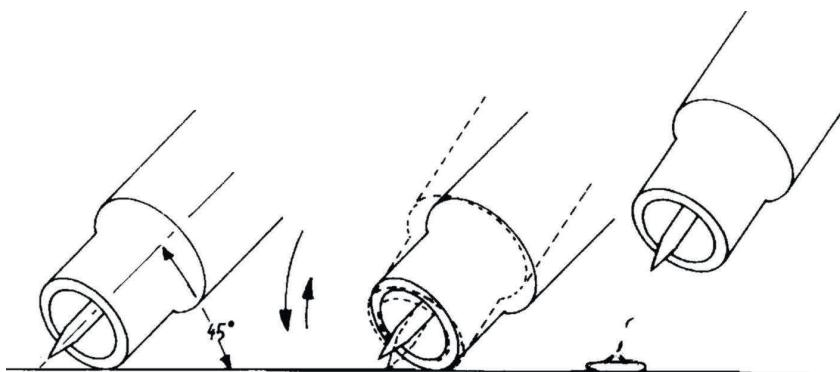

Figure 3
- Open the gas valve on the torch handle, allowing gas to flow from the torch nozzle. Cover your face with the head shield, bring the torch to within 3-4mm of the work, and at an angle of 45°, so that the ceramic nozzle gently touches the work surface. (Fig.3). Scratch the tip of the electrode until an arc develops, quickly withdraw the electrode and maintaining a gap of approx. 3-4 mm proceed to weld. To stop welding, simply remove the torch from the work piece.